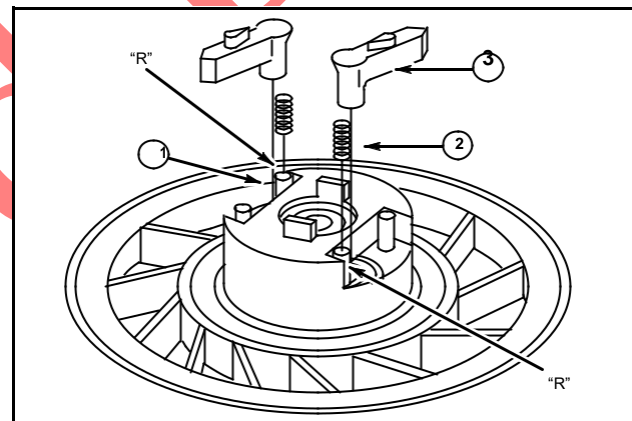

Fig. 37
1. Position springs (2) over posts in pulley (1) marked "R", then install pawls (3), Fig. 37.